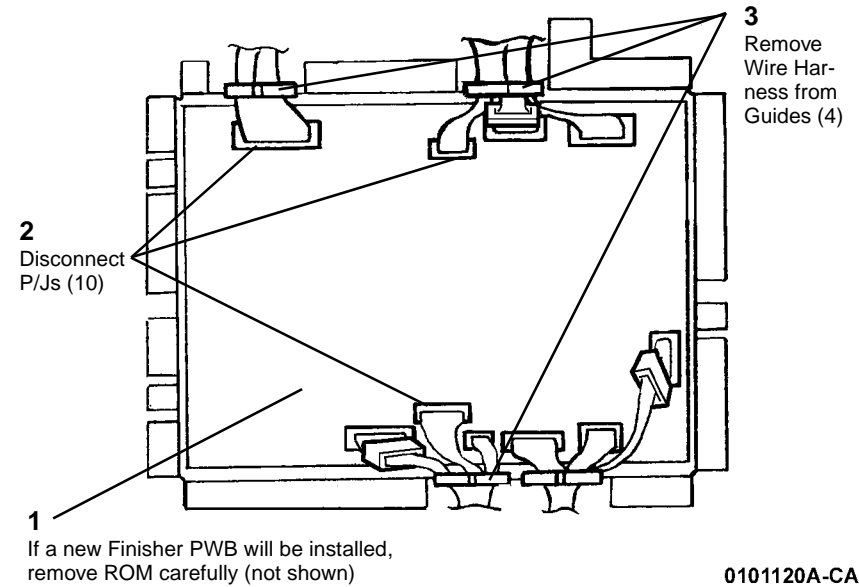

Figure 2 Disconnecting P/J's
4. Disconnect P/J's (Figure 2).